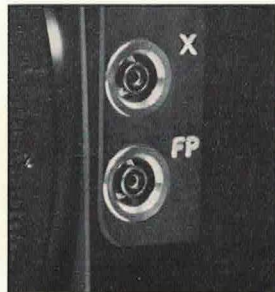

Fig. 50
P.C. outlets for "X" and "FP" synchronization. (Fig. 50)